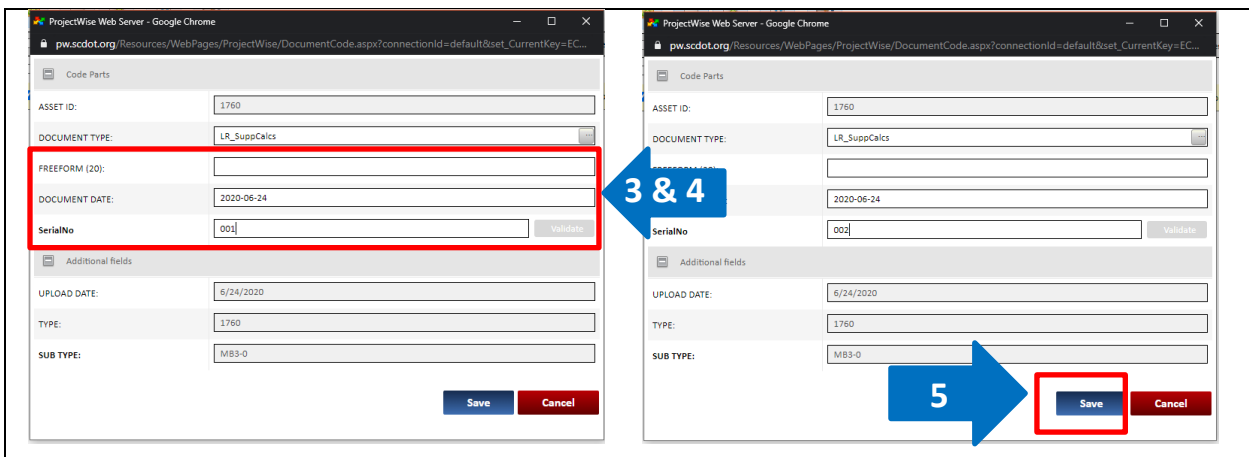

Figure 3.21. The Document Code window requires all fields to be manually inputted. Refer to Sections 3.1 and 3.2 for descriptions of each field.
3. If appropriate, based on the Document Type, input a Freeform field. (Figure 3.21)
4. Input the Document Date and SerialNo (Figure 3.21) based on the guidance from Section 3.1.
5. Select the “Save” button to save the attributes (Figure 3.21).